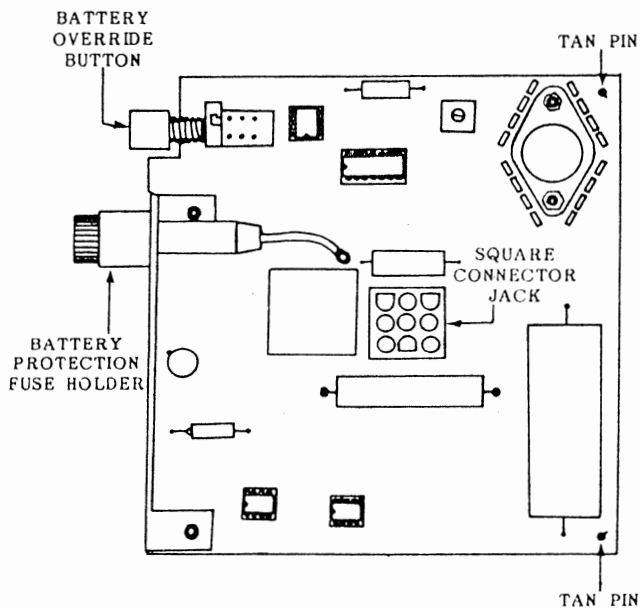

FIGURE 7
**02.01** The power battery back-up unit (PBBU) in Figure 7 is an optional PCB which may be installed in the EPSA-104 to interface with two auxiliary 12V batteries. In the event of an electrical power failure, the PBBU provides an automatic battery power source, permitting a typical STRATA VI system to continue normal operations for some time (in direct ratio with the type and size of the batteries chosen).
- The "Battery Override" switch (Figures 7 and 8) is placed in the **ON** position, or...